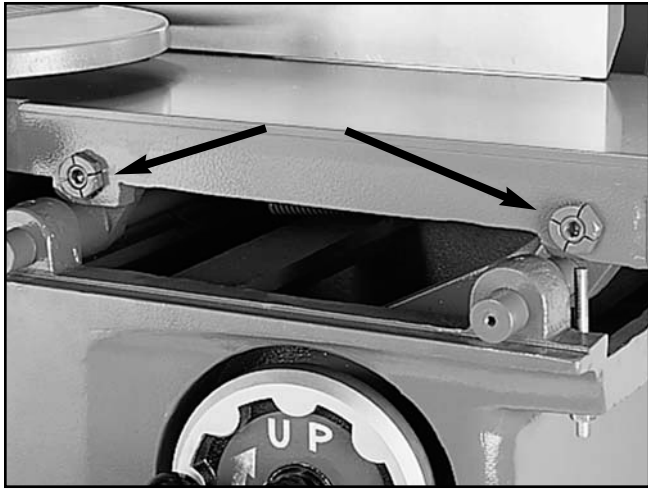

Figure 39. Front eccentric locations.
3. Using a 4mm Allen wrench, loosen the set screw located on the side of each eccentric (**Figure 39**).
4. Using a 10mm Allen wrench, loosen the cap screw located in the center of each eccentric (**Figure 39**).